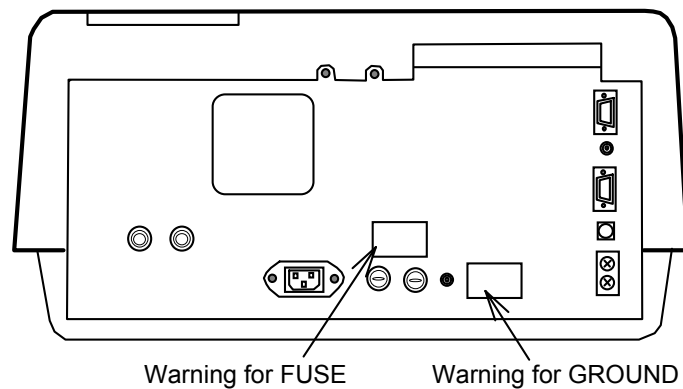
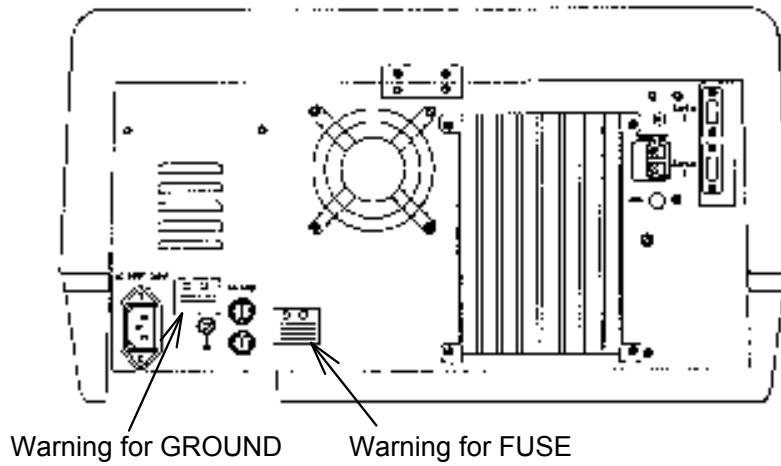

Figure 1 Warning Labels on the V-530 Back Panel
Figure 2 Warning Labels on the V-550/560/570 Back Panel
1) Warning for FUSE (Fig.1 or Fig. 2)
2) Warning for GROUND (Fig.1 or Fig.2)